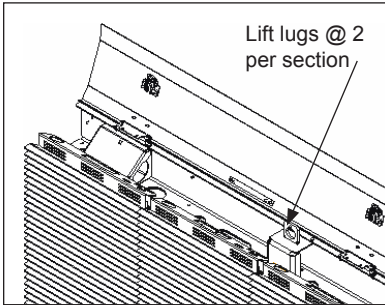

Figure 3: Open Beverage Shroud
- 2. Open the beverage shroud by rotating upward. Refer to **Figure 3**.